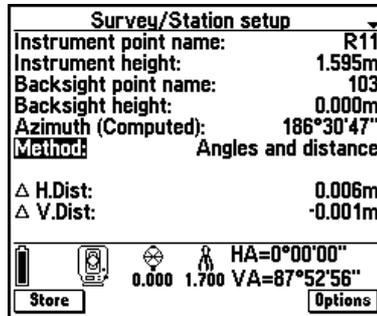

Figure 4.4 Survey/Station setup screen – after measurement taken
8. The distance deltas are displayed on the screen, as shown in Figure 4.4.